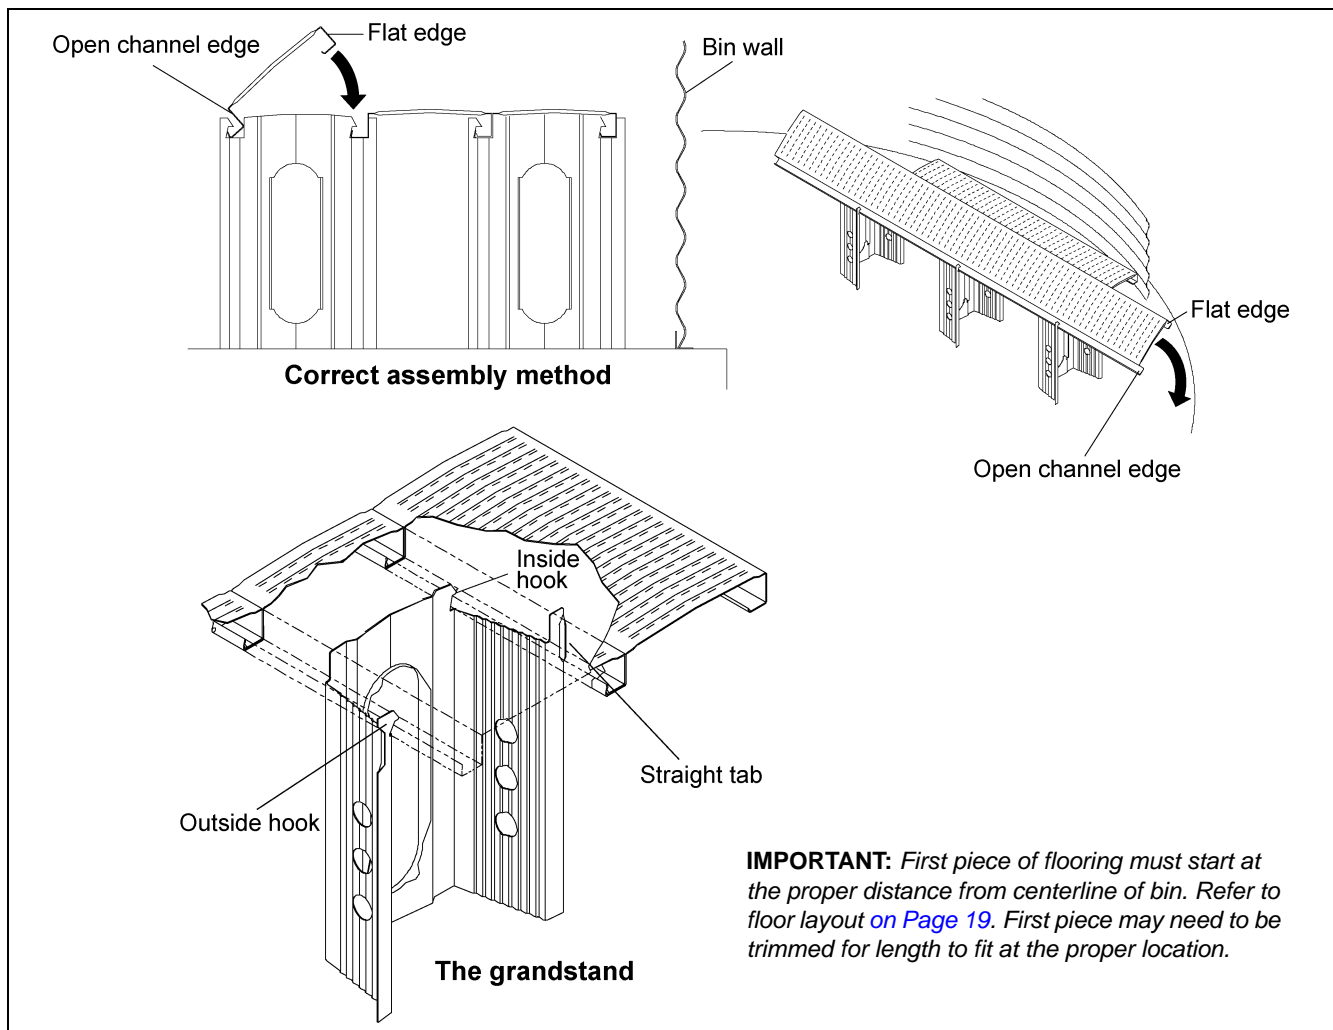
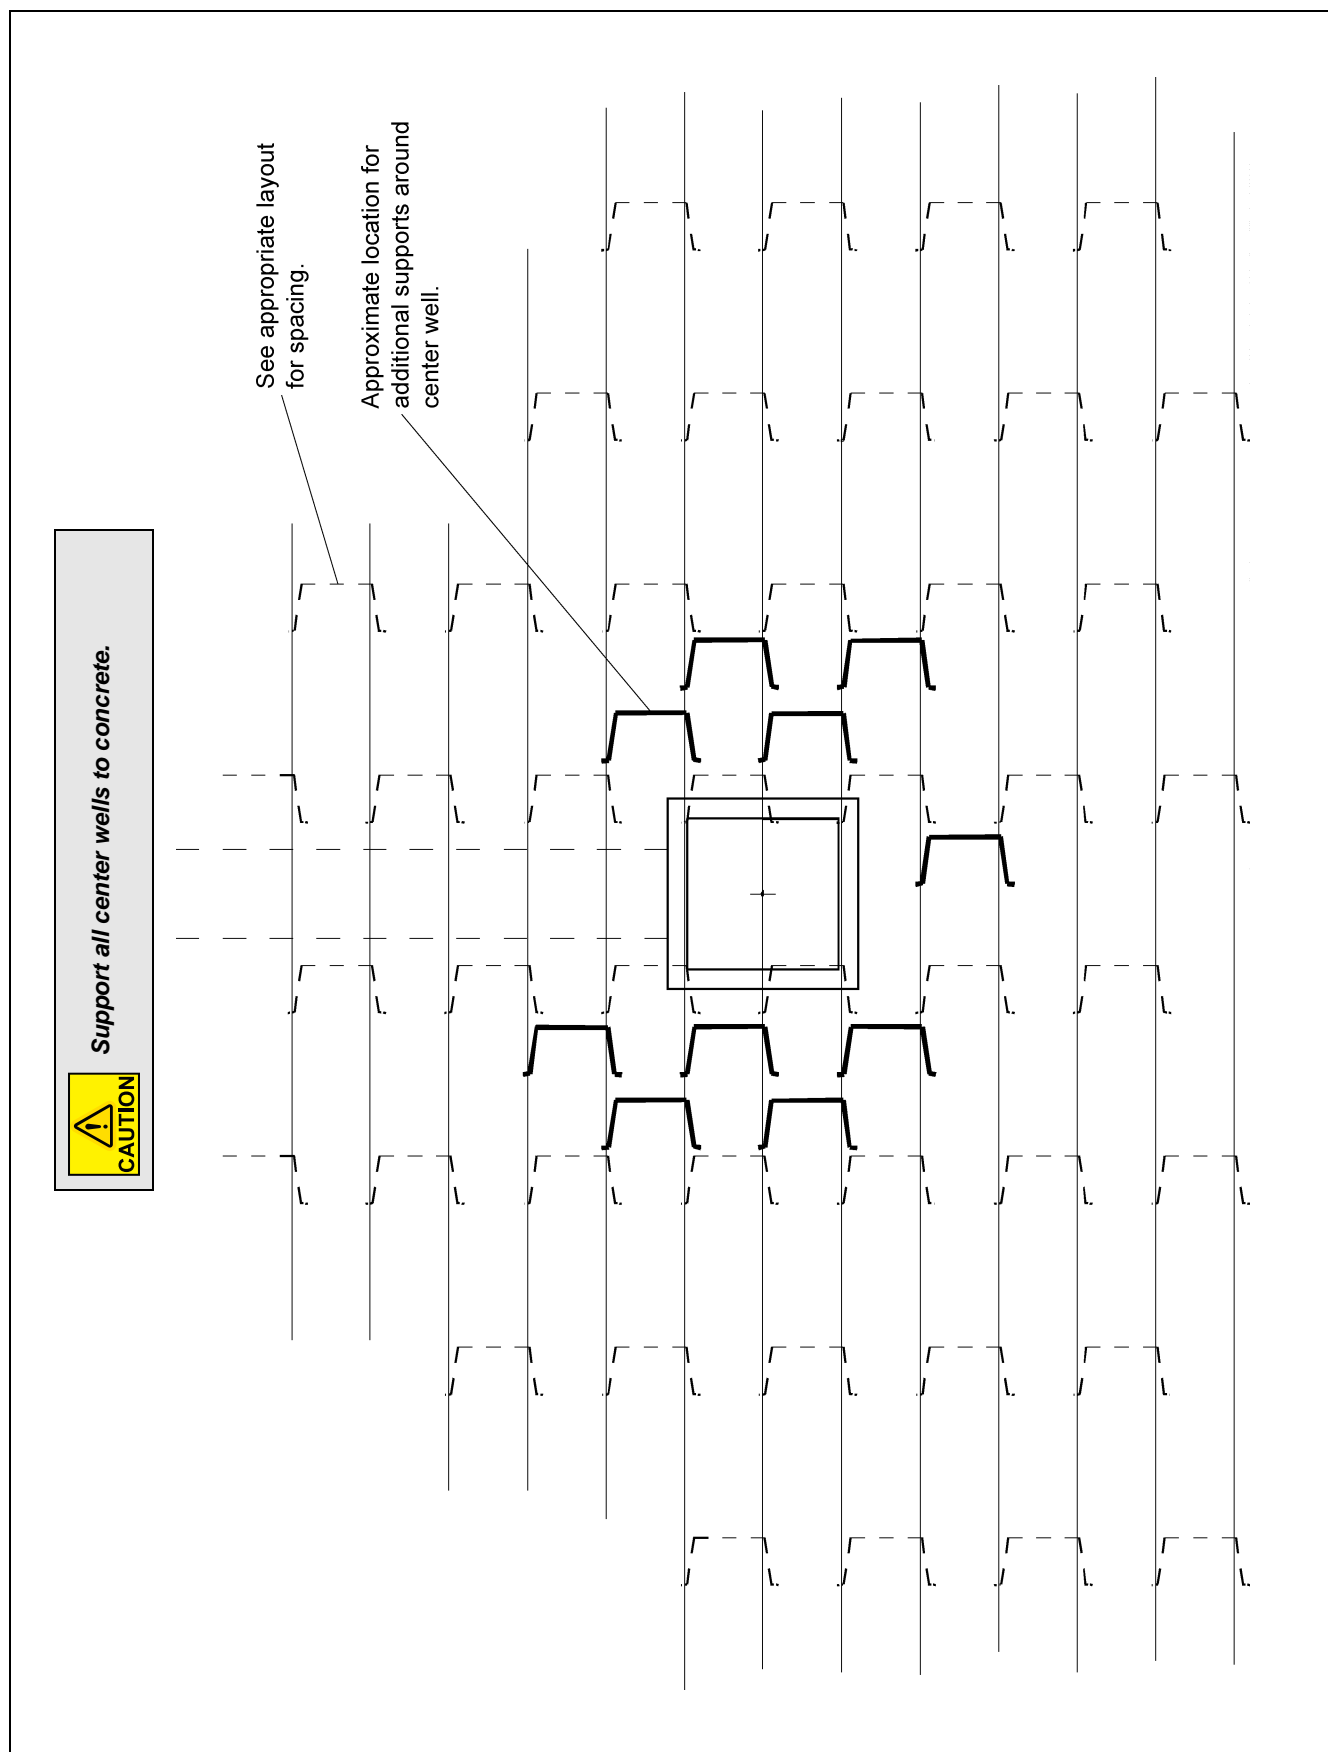
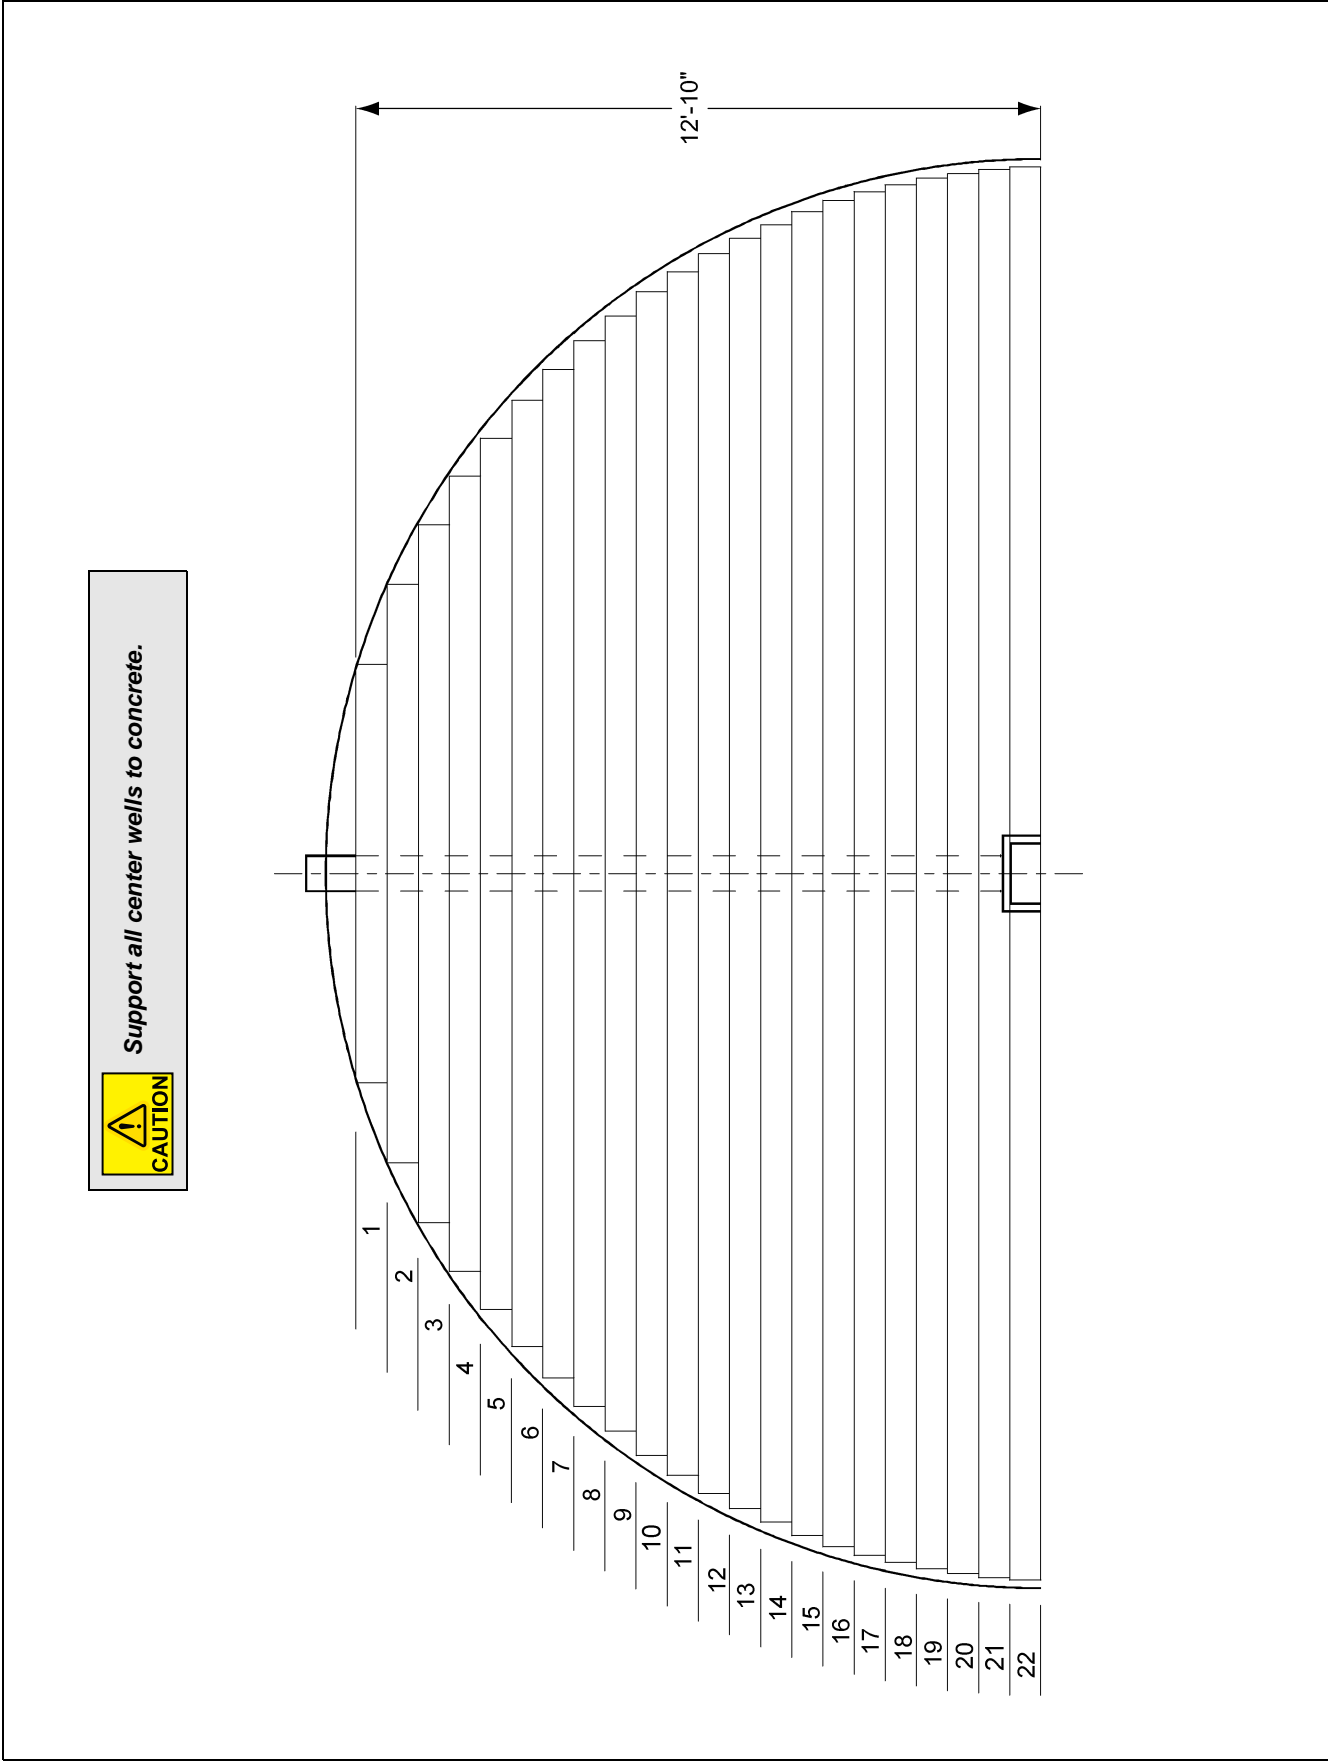

Figure 4C
Figure 7A
Figure 8A
3. Install flooring starting at the bin wall on the opposite side of the unload auger. Floor planks should be placed perpendicular to the unload auger with the outside edge the correct distance from the center of the bin. (See Figure 8A on Page 19.) Be sure the flat edge of the floor plank is facing the bin wall and the open channel edge is facing towards the center of the bin. (See Figure 4C.) Position the supports for the first/shortest floor plank according to the number of bin rings and corrugation as shown in the illustrations on Pages 20-28 or stated in the charts on Page 29 and Page 30. Attach the flashing to flooring and bin wall to hold plank in place. (See Page 17 for flashing installation.)
4. **POSITION THE NEXT ROW OF SUPPORTS ACCORDING TO THE CHALK LINES** and support layout. The straight tab should “snap” under the first (previous) floor piece. After the supports in the row are correctly positioned, install the next floor piece by hooking the open channel edge under the outside hooks of the floor supports. Push down sharply on the edge of the floor piece until it snaps into the previous floor piece. (See Figure 4C.) Continue this process for the rest of the floor cutting planks for center and intermediate wells as needed. See Figure 7A on Page 18 for center well support locations.